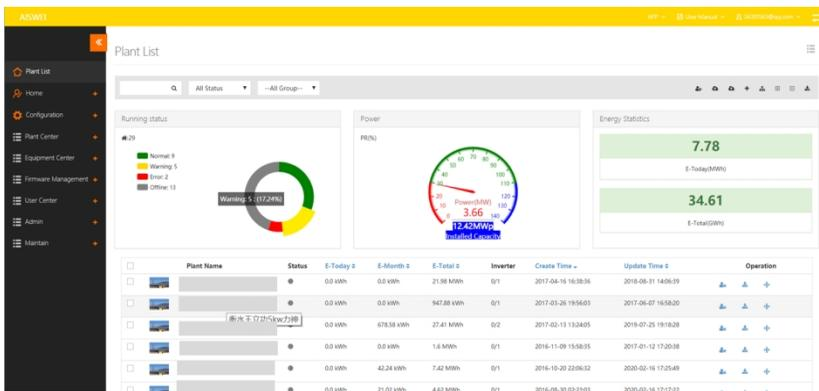

Fig. 2-2: Setting up a new PV plant
Step2: Input your user name and password in the area marked with a “1” in Fig. 2-1 -2 to login to AiSWEICloud. If the login is successful you will enter the web page with a PV plant list as shown in Fig. 2-2.